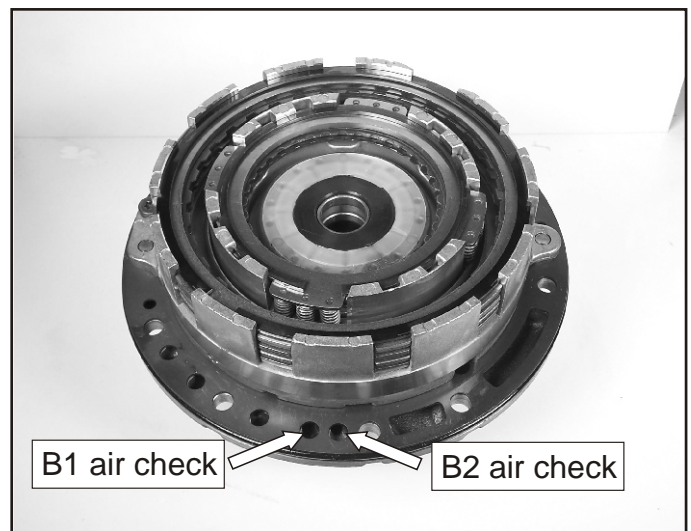

Figure 126
72. Using a rubber tip blow gun, air check the B1 and B2 clutch assemblies, thru the two ports, as shown in Figure 126.